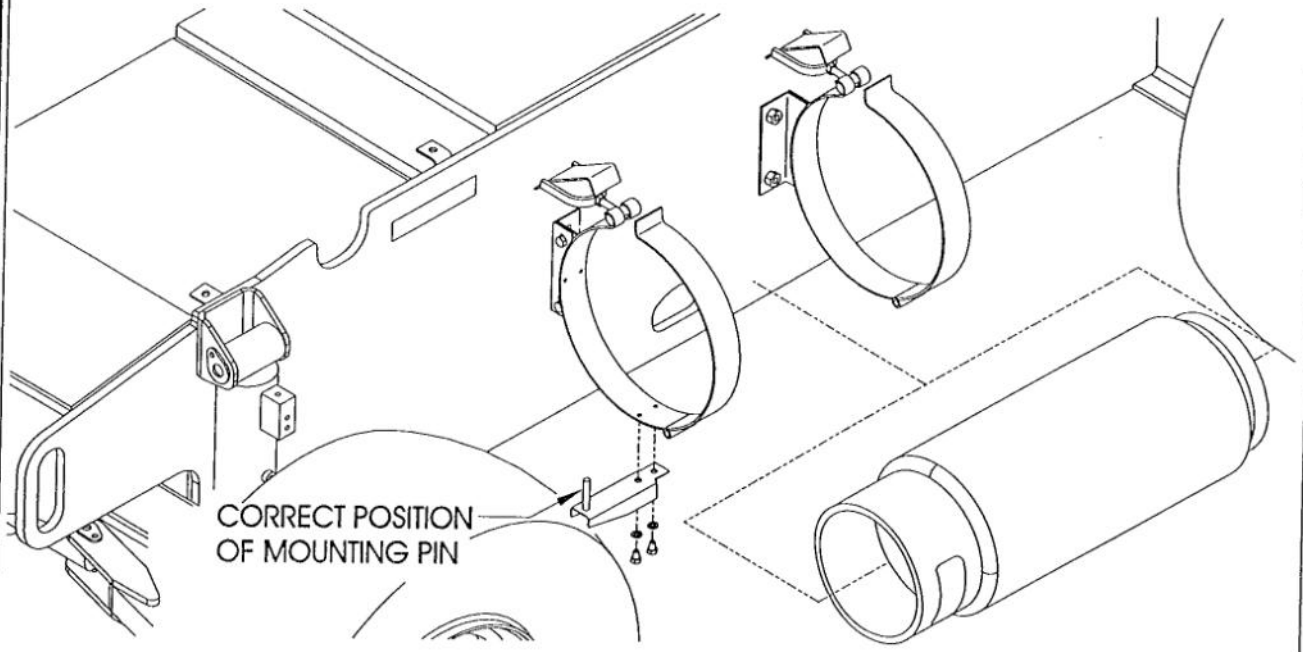

Figure 1
PROCEDURE: Read all instructions thoroughly and refer to figure 1 and 2 before starting.
1. Inspect tank mount for location of tank mounting pin. If mounting pin is in correct position as shown in figure 1, no modification is required. If tank mounting pin is not in the location shown in figure 1, proceed with instructions.